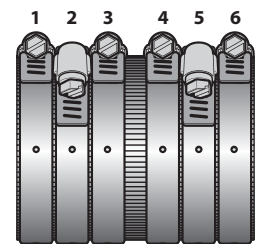

Figure 16
8.9.2. For sizes 5", 6", 8", 10", 12" and 15" tighten the inner clamps 3 and 4 alternately in 20 inch-lb increments until the recommended 80 inch-lb is reached. Then tighten middle clamp 2 and 5 alternately in 20 inch-lb increments until the recommended 80 inch-lb is reached. Then tighten outside clamps 1 and 6 alternately in 20 inch-lb increments until the recommended 80 inch-lb is reached (See Figure 16).